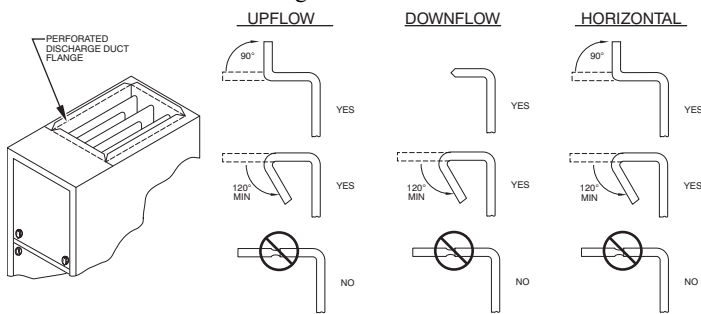

Fig. 20 – Duct Flanges
Connect supply-air duct to flanges on furnace supply-air outlet. Bend flange upward to 90° with wide duct pliers. See Fig. 20. The supply-air duct must be connected to **ONLY** the furnace supply-outlet-air duct flanges or air conditioning coil casing (when used). **DO NOT** cut main
**NOTE:** It is recommended that the perforated supply-air duct flanges be completely removed from furnace when installing the furnace on a factory-supplied cased coil or coil box. To remove the supply-air duct flange, use wide duct pliers or hand seamers to bend flange back and forth until it breaks off. Be careful of sharp edges. See Fig. 20.
Connect supply-air duct to supply-air outlet on furnace. Bend flange inward past 90° with wide duct pliers See Fig. 20. The supply-air duct must be connected to ONLY the furnace supply outlet or air conditioning
Connect supply-air duct to flanges on furnace supply-air outlet. Bend flange upward to 90° with wide duct pliers. See Fig. 20. The supply-air duct must be connected to ONLY the furnace supply-outlet-air duct flanges or air conditioning coil casing (when used). DO NOT cut main furnace casing side to attach supply air duct, humidifier, or other accessories. All supply-side accessories MUST be connected to duct external to furnace main casing.